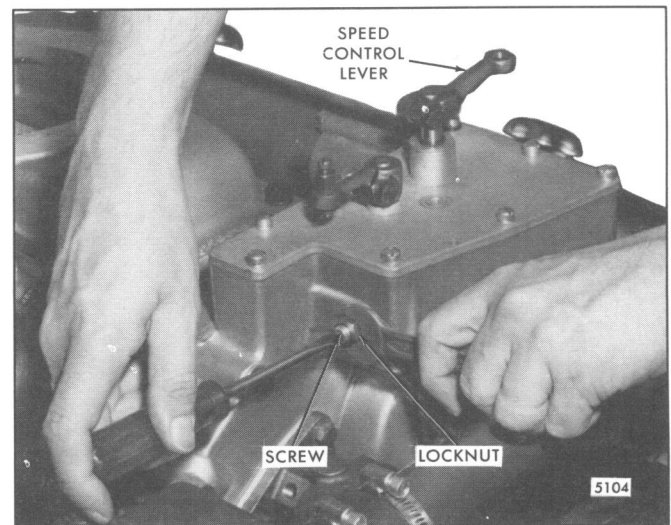

Fig. 17 – Adjusting Buffer Screw
1. With the engine running at normal operating temperature, turn the buffer screw in so it contacts the differential lever as lightly as possible and still eliminates engine roll (Fig. 17). Do not increase the engine idle speed more than 15 rpm with the buffer screw.